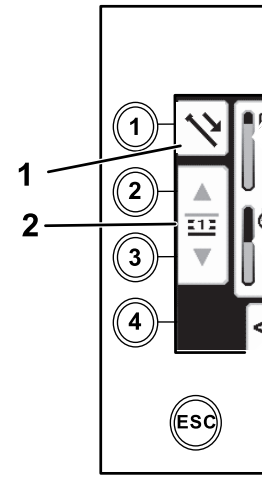

Figure 25
1. Push button 1 to select push pipe (Figure 25).
2. Push buttons 2 and 3 to select the row where you want to get the pipe (Figure 25).